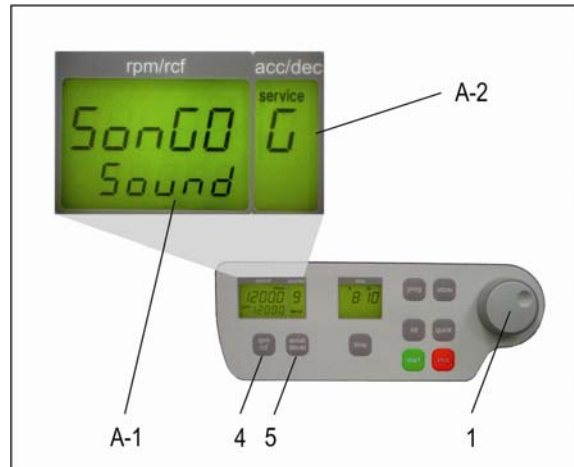

Figure 6
Proceed as described under point 1.7.1 to enter this program mode and then press the key „accel/decel“ (5). In the display „accel/decel“ (A-2) flashes the word „service“. Now select the letter „G“ with the adjusting knob (1). As a result appears in the display „rpm/rcf“ (A-1) the word „SonGo/Sound“. After pressing the key „rpm/rcf“ (4), you can select a song with the adjusting knob (1). (see figure 6).